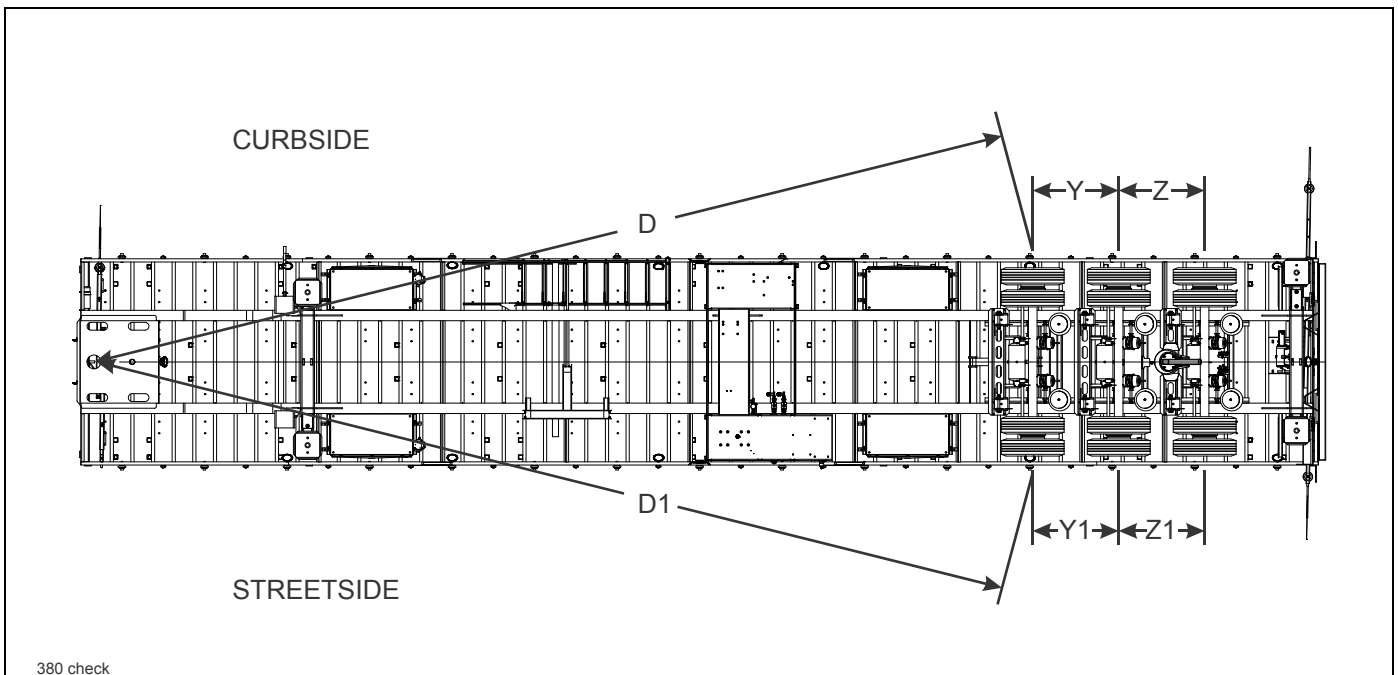

Figure 4-12: Checking Axle Alignment
4. Measure (D) from the plumb bob to the center point on one end of the axle. Record this measurement **(See Figure 4-12.)**
5. Measure (D1) to the other end of the axle in the same manner as in **step 4**. Record this measurement **(See Figure 4-12.)**